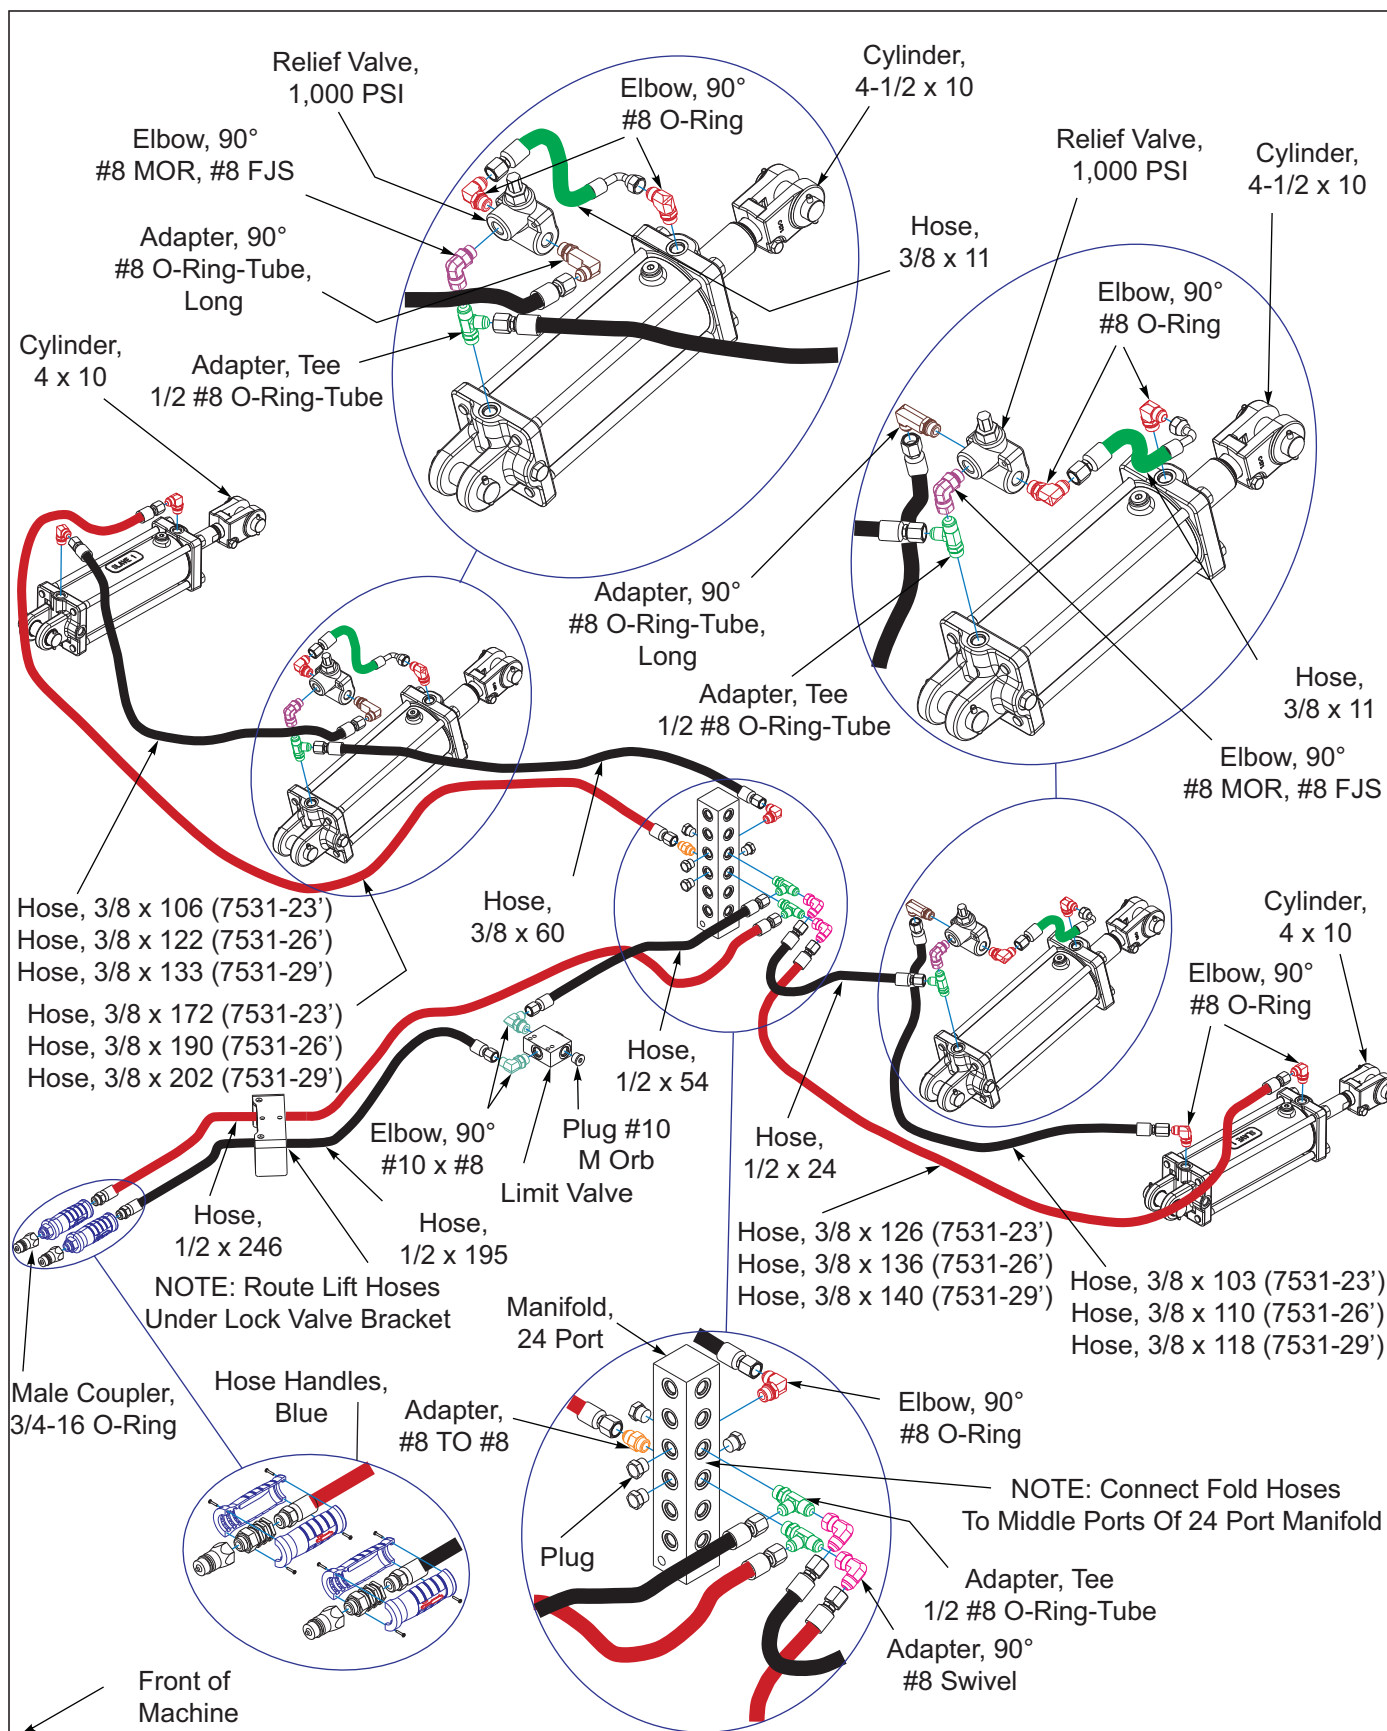
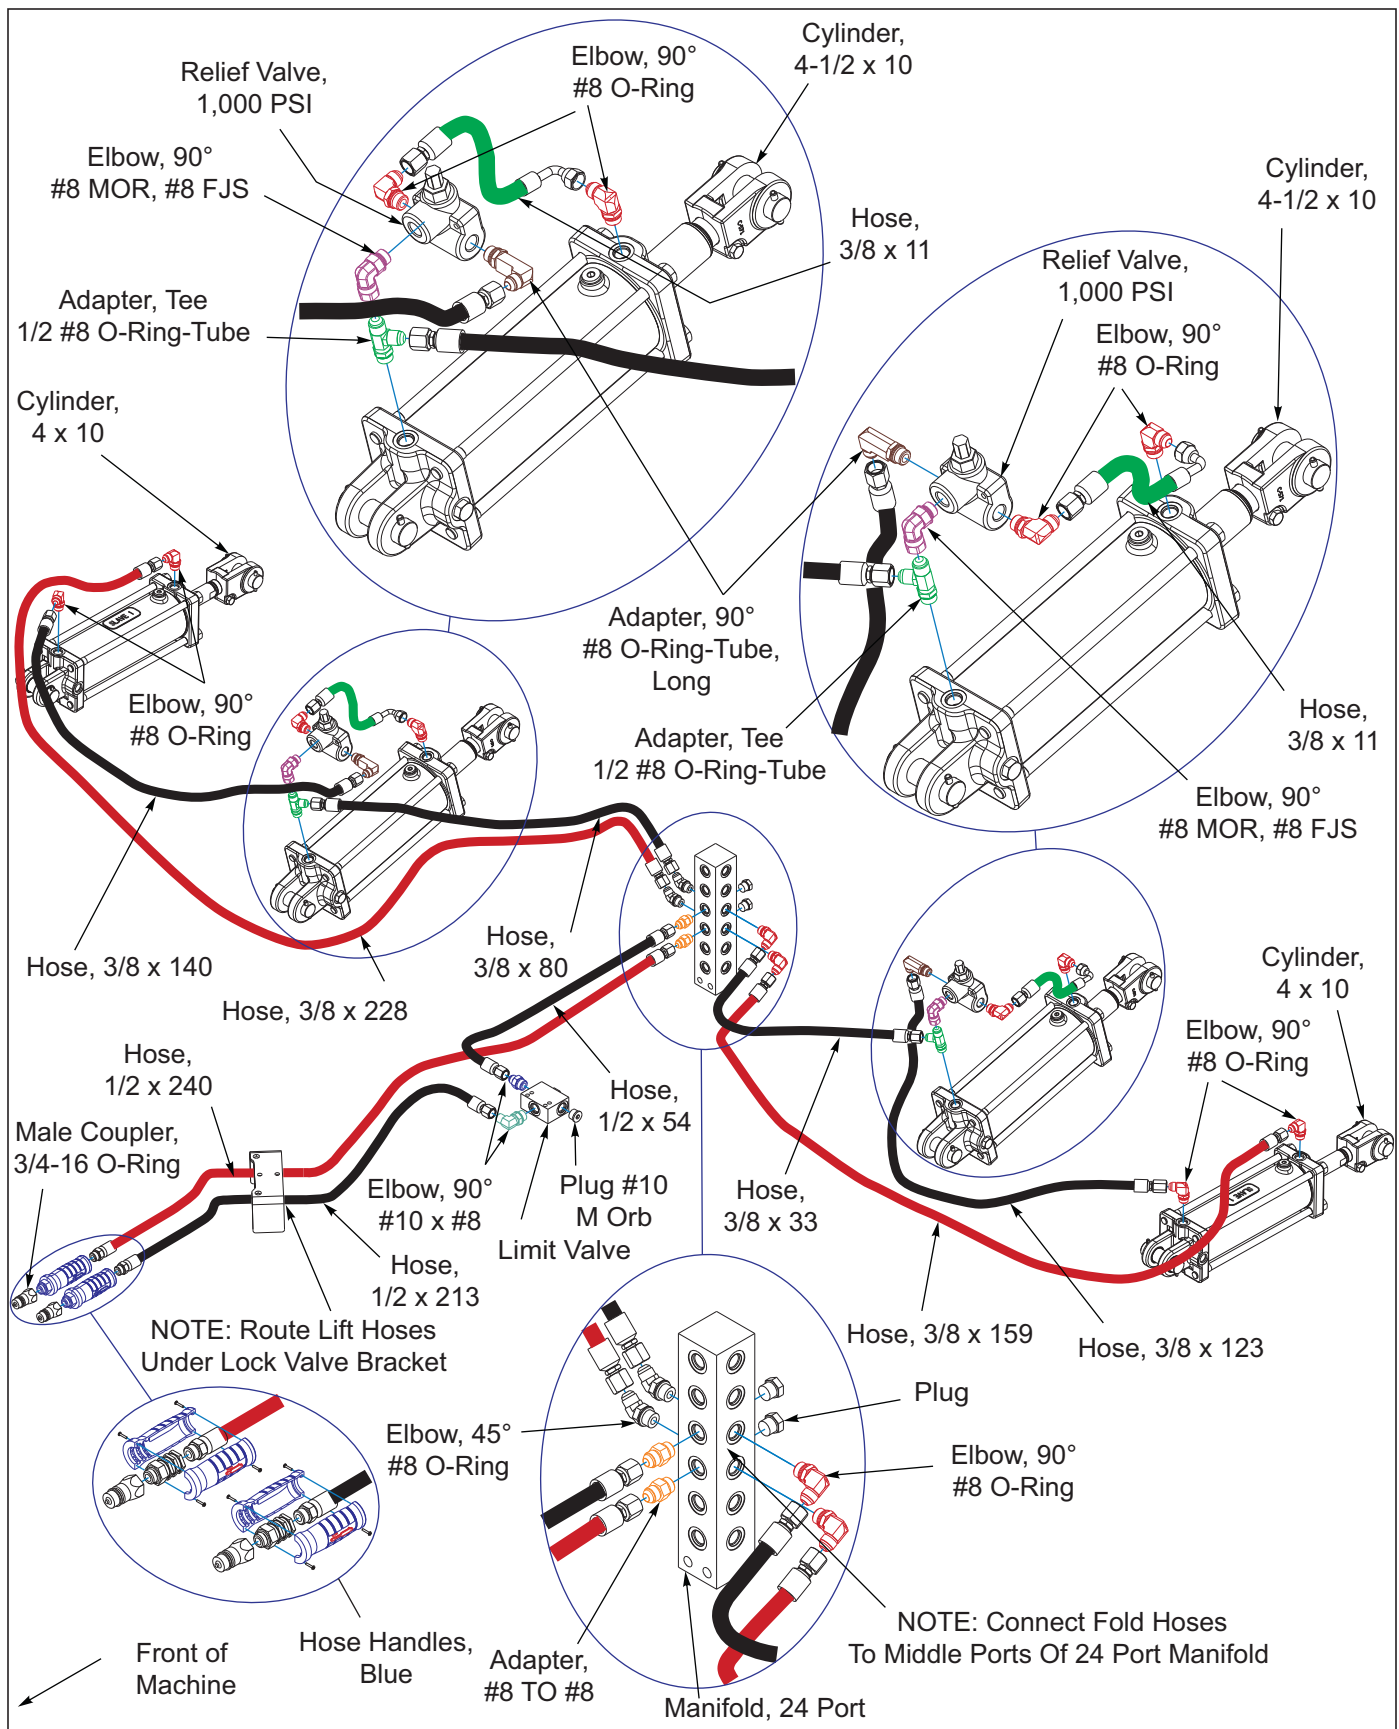
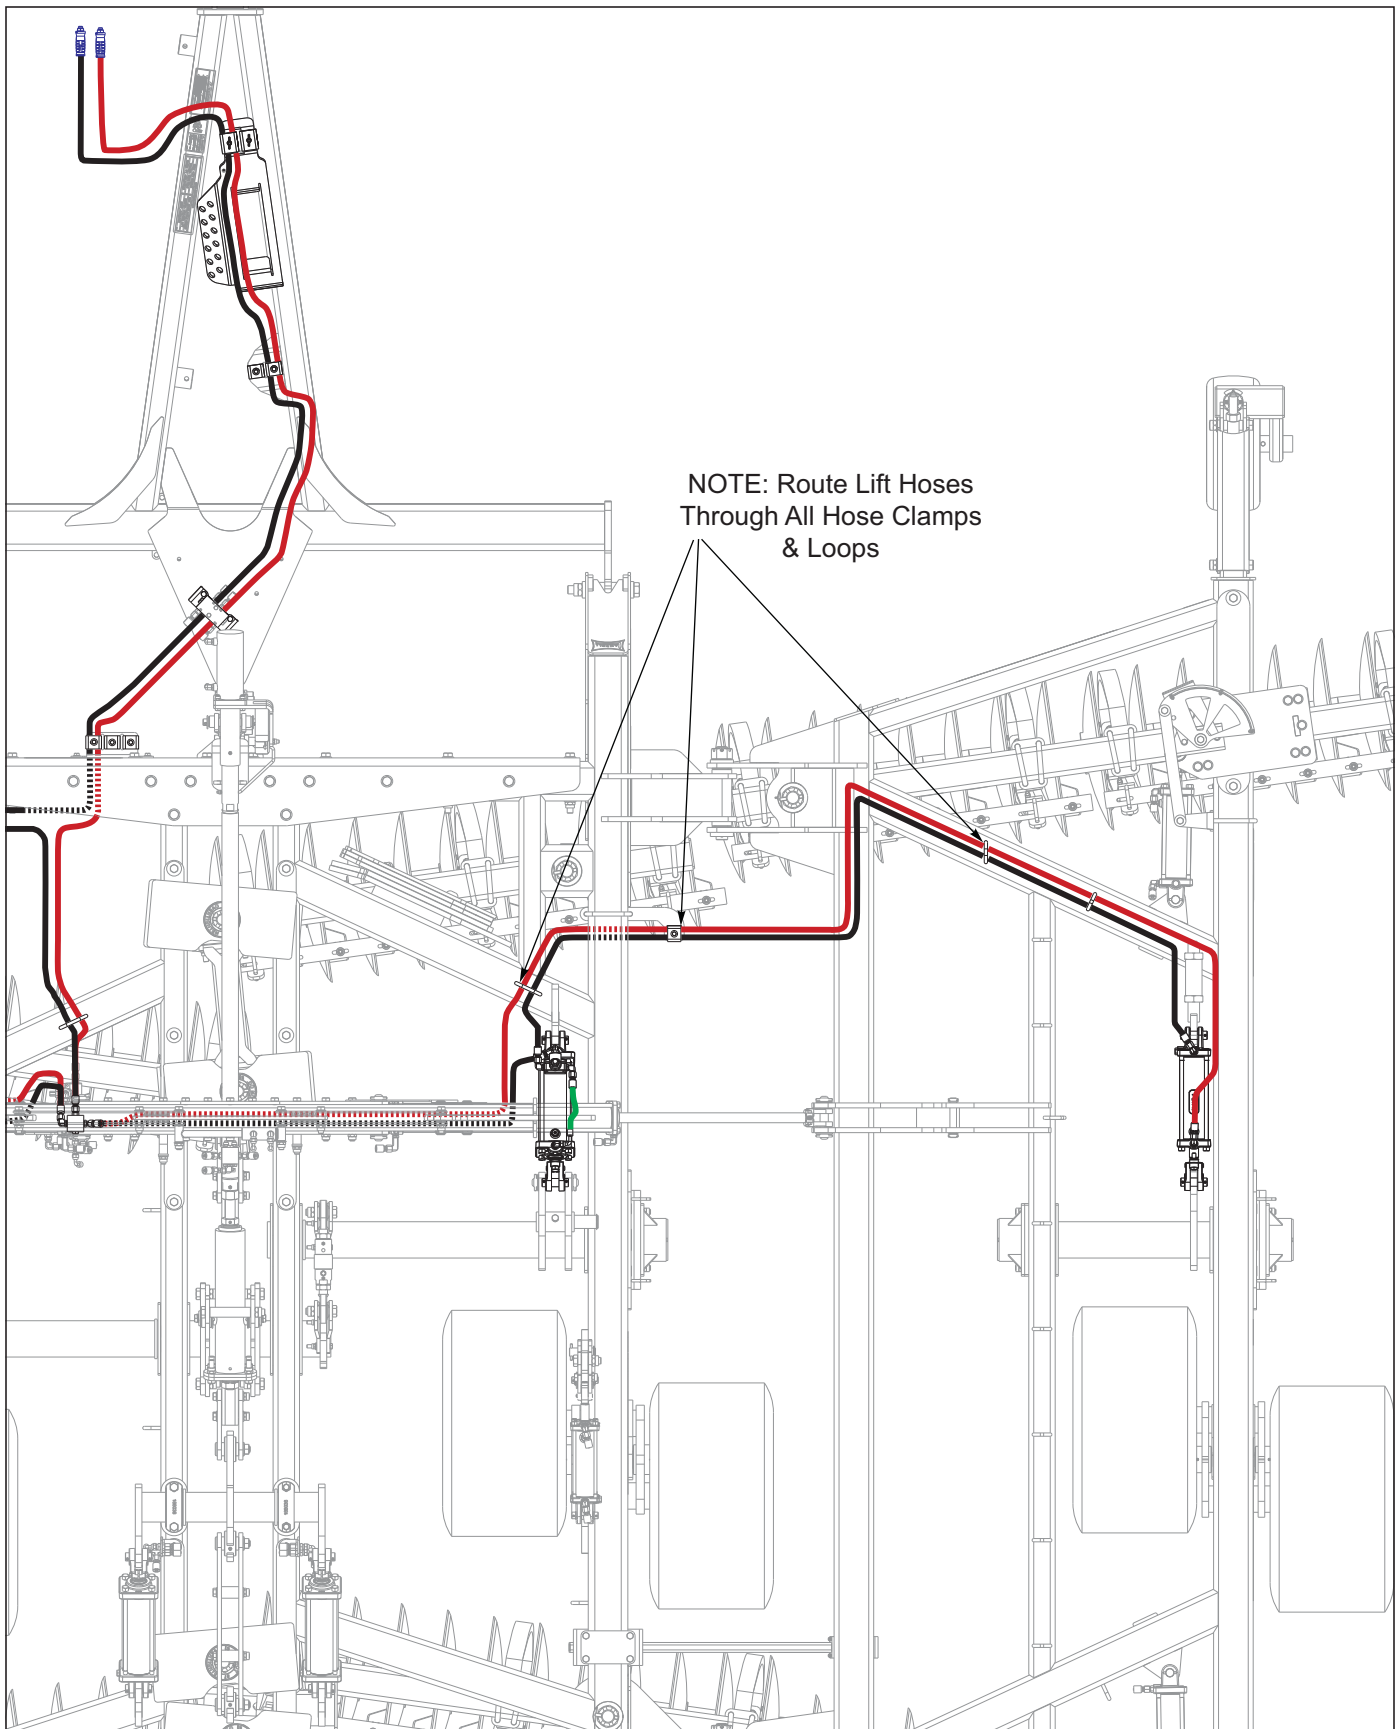

Figure 3-14: Lift Hydraulic Installation 7531-23'-29'
Figure 3-17: Lift Hydraulic Installation 7531-32'/35'
Figure 3-19: Lift Hydraulic Layout 7531-32'/35' RH
Refer to Figures 3-14- 3-19 for lift hydraulic diagrams for 7531-26', 7531-29' and 7531-32'/35' models.
1. Install 90° regular adapter fittings in both rod and base ends of all lift cylinders that are assembled to the frame - except the center frame base end fold fittings **See Figure 3-14** or **See Figure 3-17**.
10. Install lift cylinder hoses, couplers and blue hose handles **See Figure 3-14 through See Figure 3-19**.